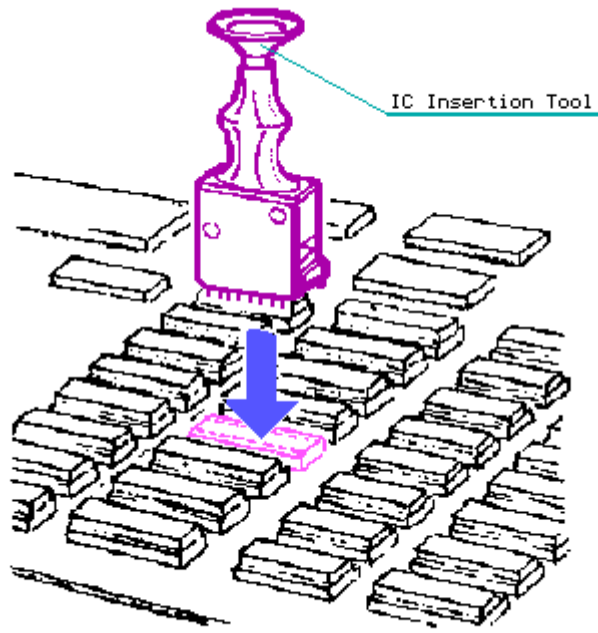

Figure 7-52. Replacing a Memory Chip
3. Using a special IC insertion tool, replace the defective RAM or ROM chip(s) (Figure 7-52).